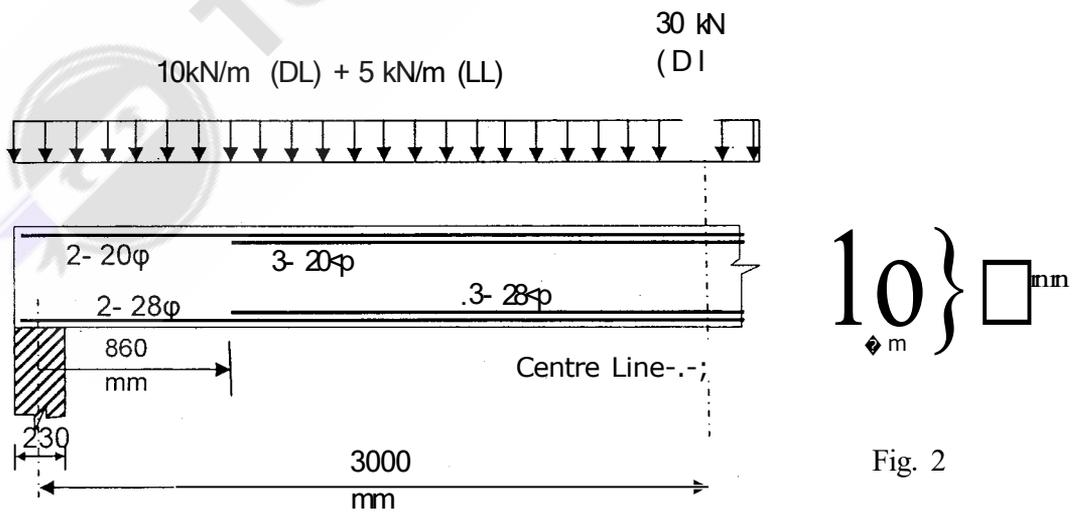

Fig. 2
2. Design shear-reinforcement for the doubly reinforced beam shown in Fig. 2. The beam is simply supported with a total centre-to-centre span of 6.0 m. Use 8mm ϕ vertical stirrups made of Fe 250 steel. The shear at the bar-cutoff point (860 mm from centre of support) also needs to be checked. The concrete is of M25 and flexural steel of Fe 415. **(40)**